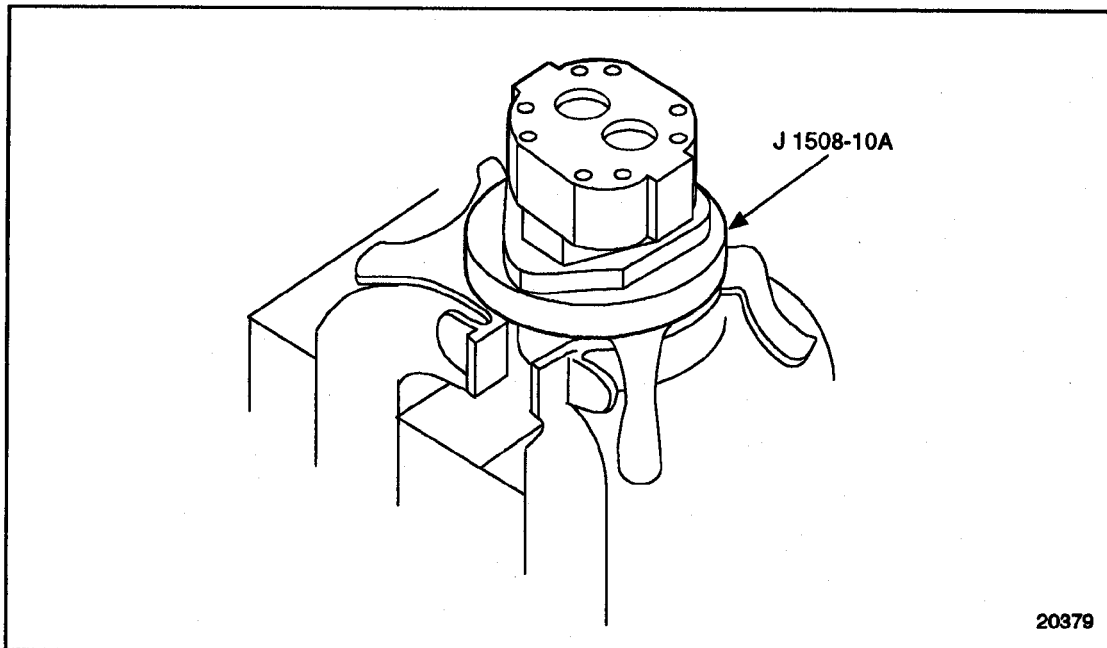

Figure 2-32 Fuel Pump Holding Fixture
8. Position pump on holding fixture, J 38767-1, hub side down. See Figure 2-32.